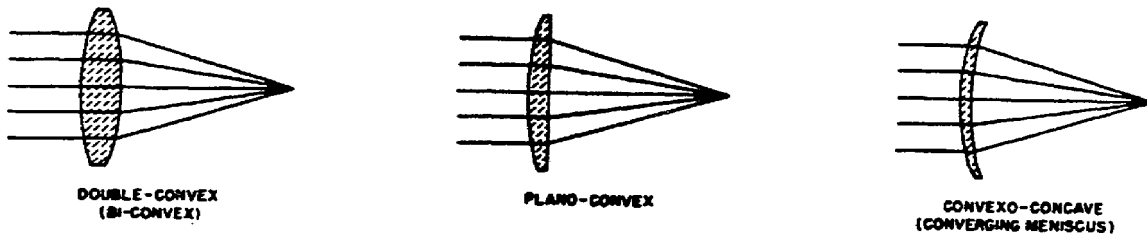

Figure 2-6. Positive Lenses.
a. Positive lenses, (fig 2-6).